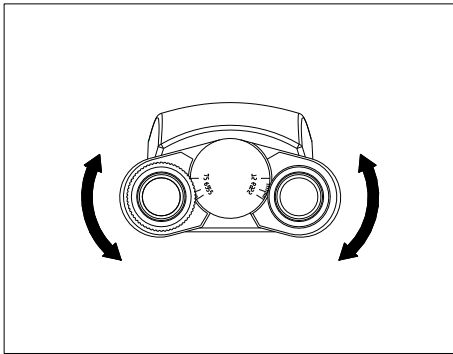

Fig.22
3.3.6 Adjusting the interpupillary distance (Fig.22)